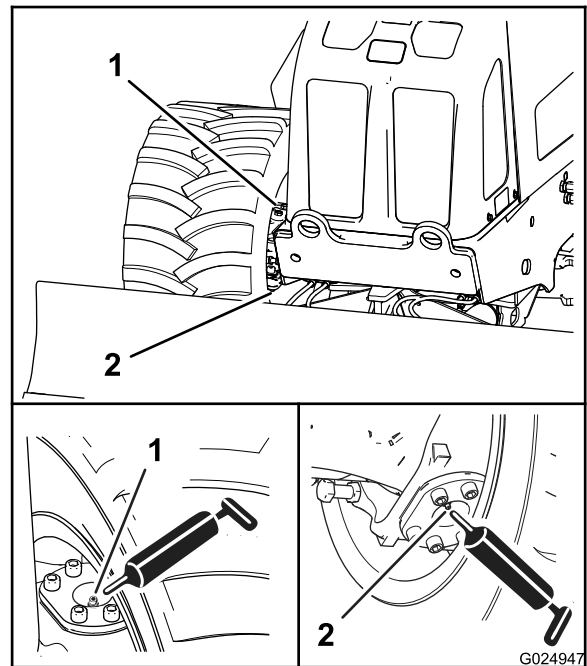
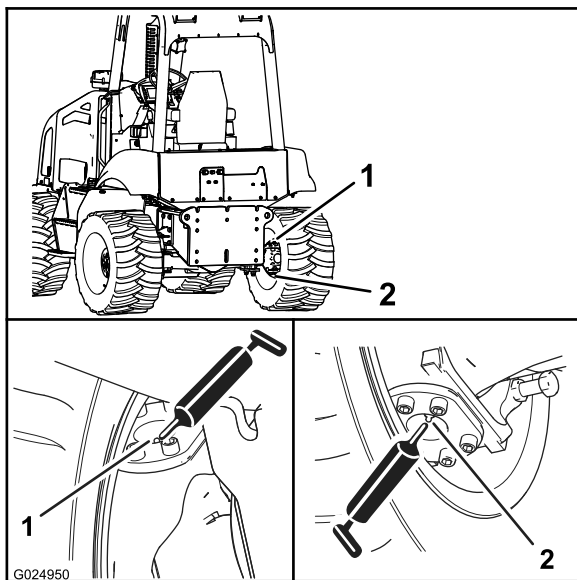

Figure 59
Figure 60
2. Connect the grease gun to the grease fittings for the upper and lower pivots; apply 2 or 3 pumps of grease to each fitting (Figure 59 and Figure 60).